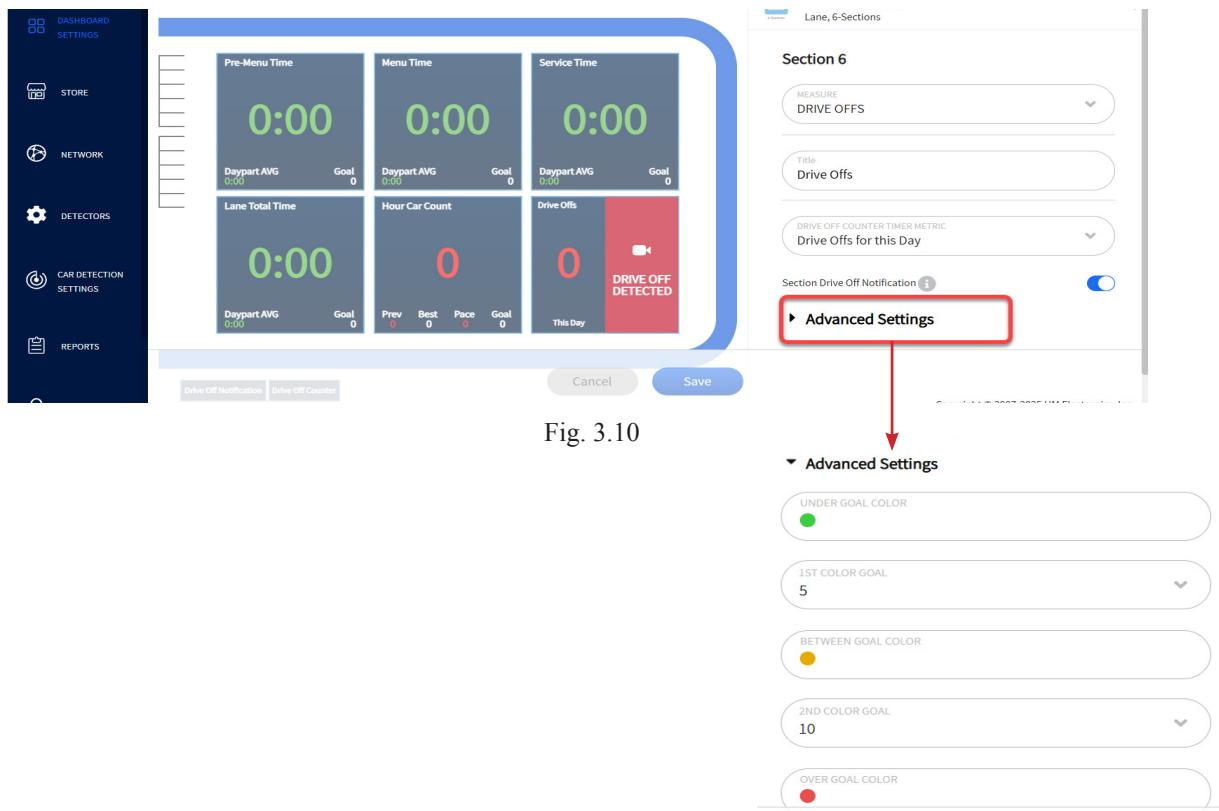

Fig. 3.10
**Advanced Settings:** Click to expand (see Fig. 3.10). Here, you can set a range of drive offs expected and set goals to color-code this range from green to yellow to red. This allows for easy identification of relative drive-offs based on expectations.
Green drive offs will indicate less than expected, while red will indicate more than expected. The example shown in Fig. 3.10 shows a value of 5 for the first goal and 10 for the second goal. This means that when there are less than five drive offs for the selected time (Drive Offs for this Day in this example), the value will be displayed in green. Between five and ten drive offs will yield a yellow value, while more than ten drive offs will yield a red value.